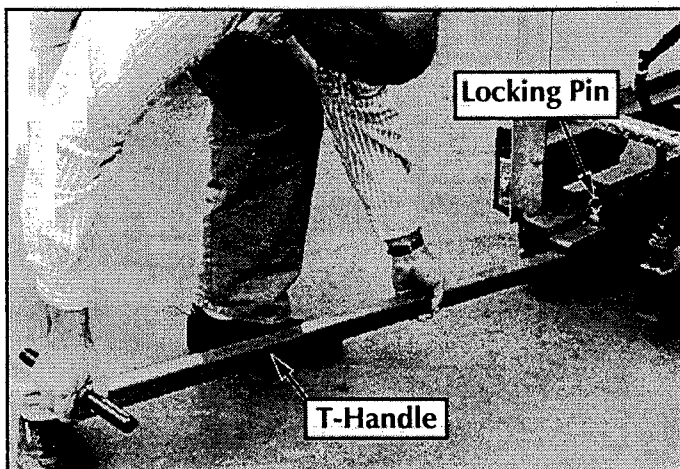

Figure 3-10: T-Handle installation
4. Insert the T-handle into the front socket until the locking pin engages the hole in the end of the T-handle, Figure 3-10.